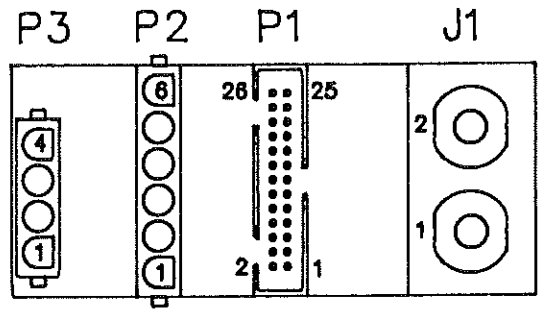

Figure 5. Backplane Connections for Each Power Module
- 6.2 The main output (V1) is at the two terminals of J1. Connections are made by means of no. 1/4-20 screws. The other outputs are at connector P2. AC input connections are made to connector P3. All control and supervisory signal connections are made to the 26-pin connector P1. See Fig. 5.
10.2 **Outputs.** The main output (V1) power connections are made to J1 which has 1/4-20 threaded holes. See Fig. 5. The top terminal (2) is positive and the bottom one (1) is negative. See Section 14.4 for recommended torque on the screws. Auxiliary output connections V2, V3 and V4 are made to connector P2.